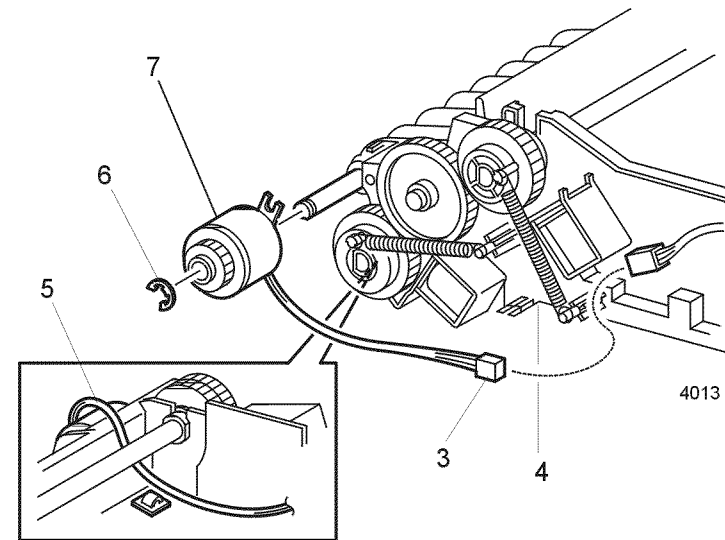

Figure 1 Tray 1 Turn Roll Clutch Assembly
5. Note the harness path, then remove the Turn Roll Clutch harness from the cable clamps (Figure 1).
6. Remove the E-Ring that secures the Turn Clutch Assembly to the Paper Handler (Figure 1).
7. Remove the Turn Roll Clutch Assembly from the Turn Roll Assembly (Figure 1).